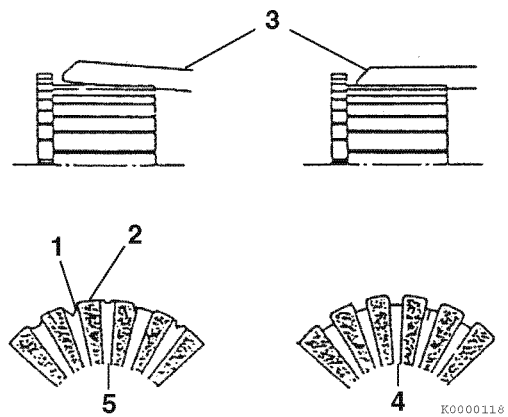

Figure 10-14
Measure the depth of the insulating material (Figure 10-14, (1)) between commutator segments (Figure 10-14, (2)). If the depth measures less than the limit, use a hacksaw blade (Figure 10-14, (3)) to remove the insulating material until the depth is within the limit. See Starter Motor Specifications on page 10-5 for service limit.
A normal commutator condition is indicated in (Figure 10-14, (4)). An abnormal commutator condition is indicated in (Figure 10-14, (5)).